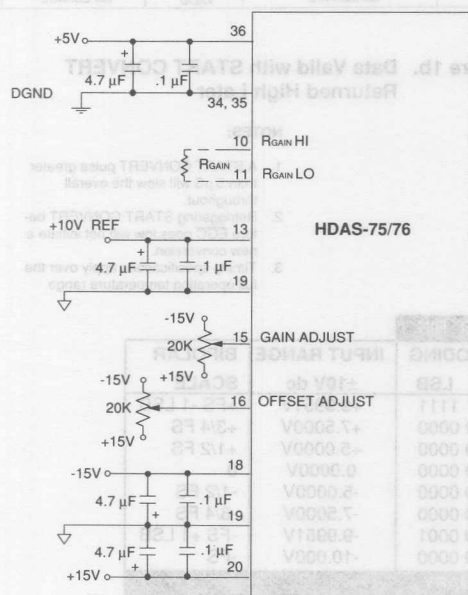

Figure 2. Typical Connection Diagram
1. Connect the converter per Figure 2 and Tables 2 and 3 for the appropriate full-scale range (FSR). Apply a pulse of 1.0 μsec (typical) to the START CONVERT input (pin 40) at a rate of 75 KHz. This rate is chosen to reduce flicker if LED's are used on the outputs for calibration purposes.